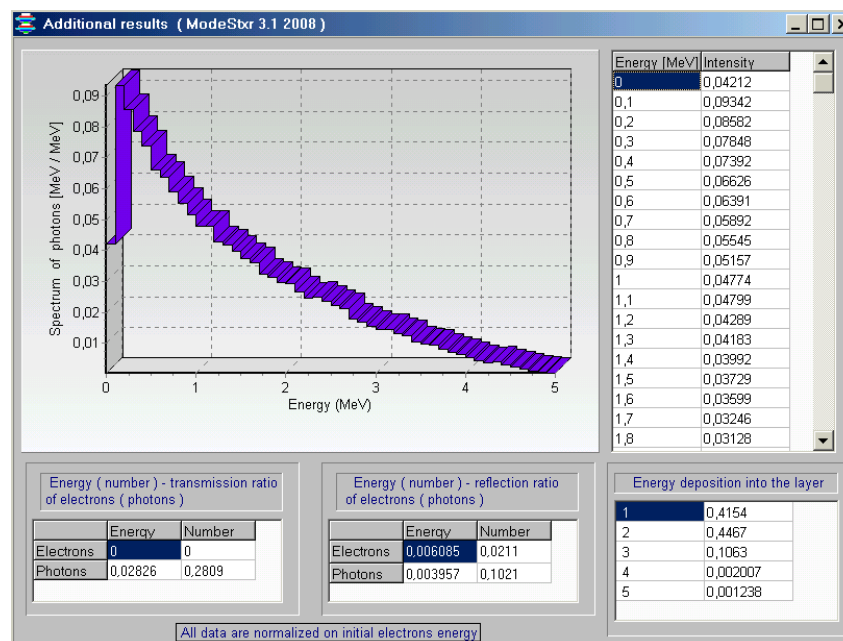

Fig.22. X-ray spectrum generated with **5 MeV electron beam** in **Tantalum converter**.
- The form with **X-ray spectrum** generated with **5 MeV electron beam** in **Tantalum converter** (see Fig.20.) in graphical and tabular form will be opened (see Fig.22).